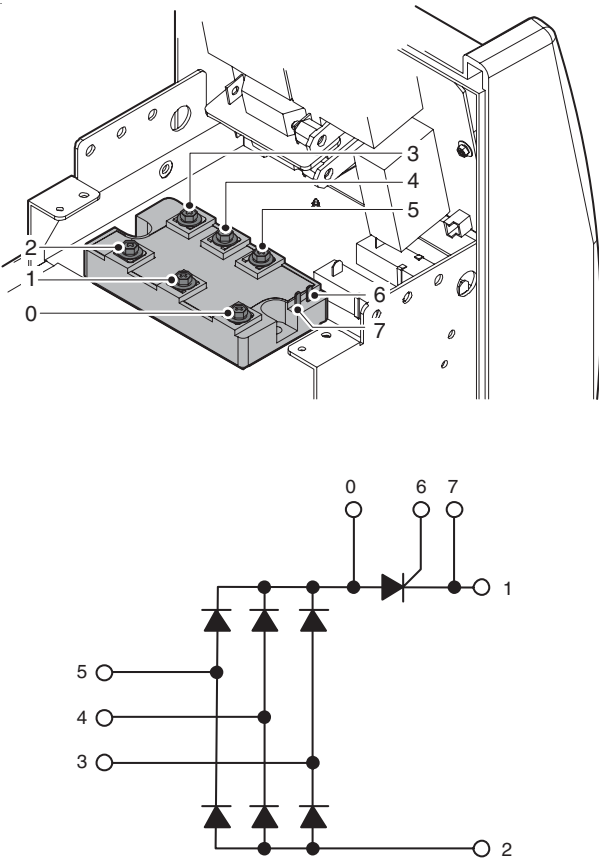

Figure 6-14: Tester checkpoints for D1 and showing the connection diagram
2. Refer to Table 6-5 and Figure 6-14 for the checkpoints on D1.